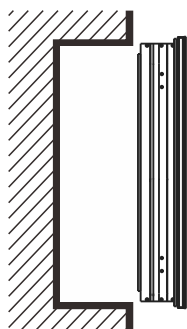
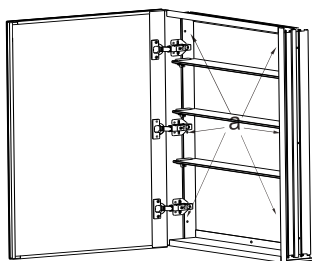

Fig. 16
Fig. 17
- 1.9 Install the mirror cabinet on the wall of expected recessed mounted mirror cabinet (Fig.16), and use pencil to make sign on the wall through mirror cabinet framework (a) (Fig.17).
- 2.1 Finally. Repeat the operation as shown in Fig.16 and mount the mirror cabinet to the recessed mounted.